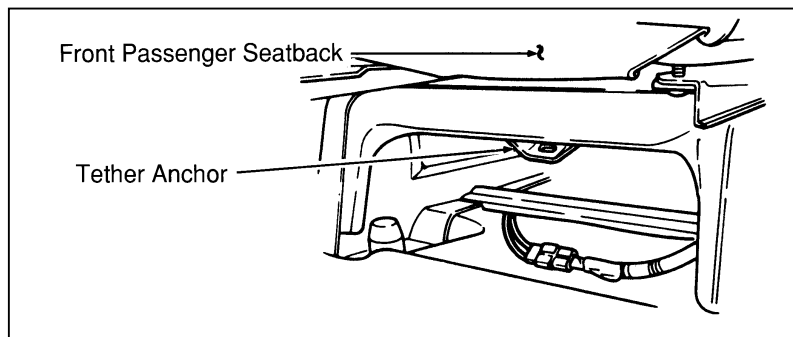

Figure 1: Tether anchor location — Front passenger seat
- **FRONT PASSENGER SEATING POSITION** — You must use the tether strap anchor location provided on the back of the seat cushion frame. (Refer to Figure 1.)